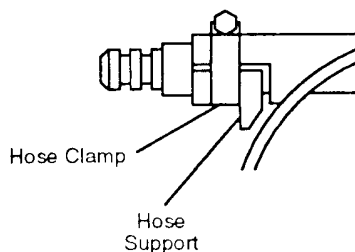

Fig. 4
5. Loosen the hose clamp bolts. See Fig. 4. Remove the hose supports and clamps that secure both ends of the hose.